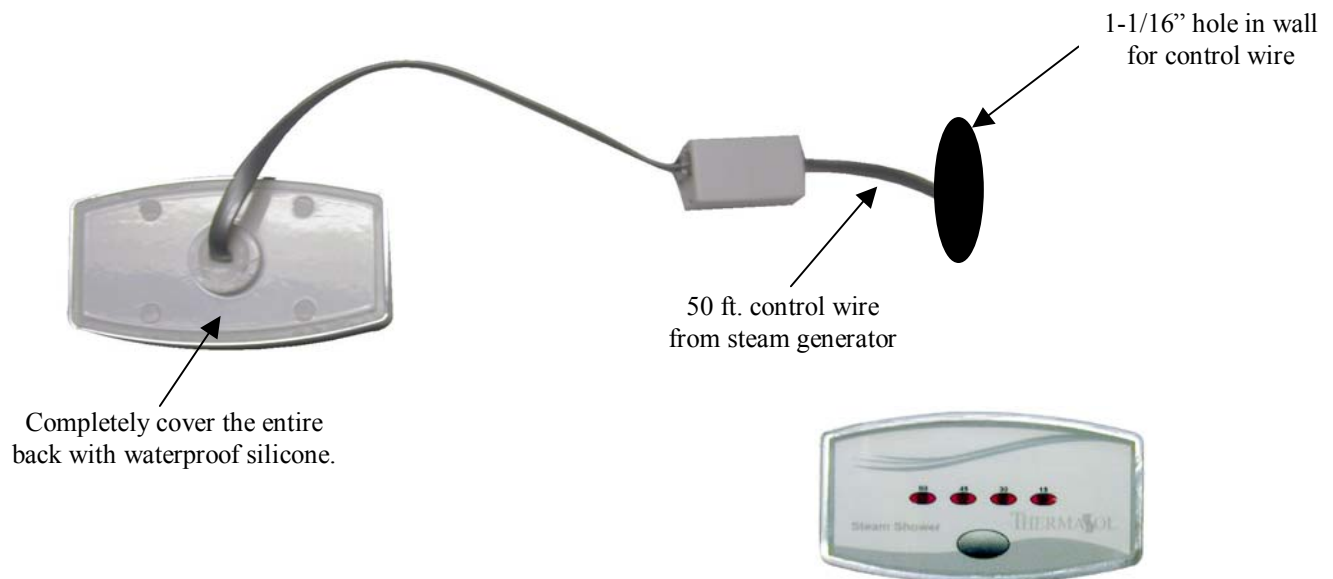

Figure 1
7. **THESE STEPS MUST BE TAKEN OR YOUR WARRANTY WILL BE VOID.** Coat the entire control back with supplied waterproof silicon. Completely seal the control to the wall so moisture does not get behind it. Place the control on the wall pressing firmly. You may need to tape the control into place until the silicone dries. Be careful not to harm the wall/control with the tape. Refer to figure 1. **Let dry for 24 hours before using steam bath.**